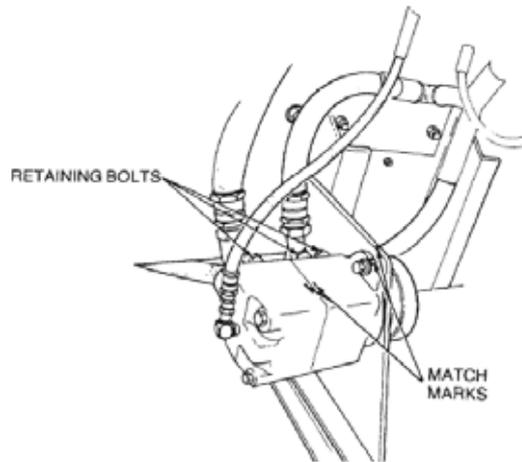

Figure 44 Hydraulic Motor
- f.** Remove the bolts securing the flanges of the pressure supply and return hoses to the pump (Figure 44).
- h.** Match mark the two halves of the motor and the motor flange to the mounting bracket (Figure 44).